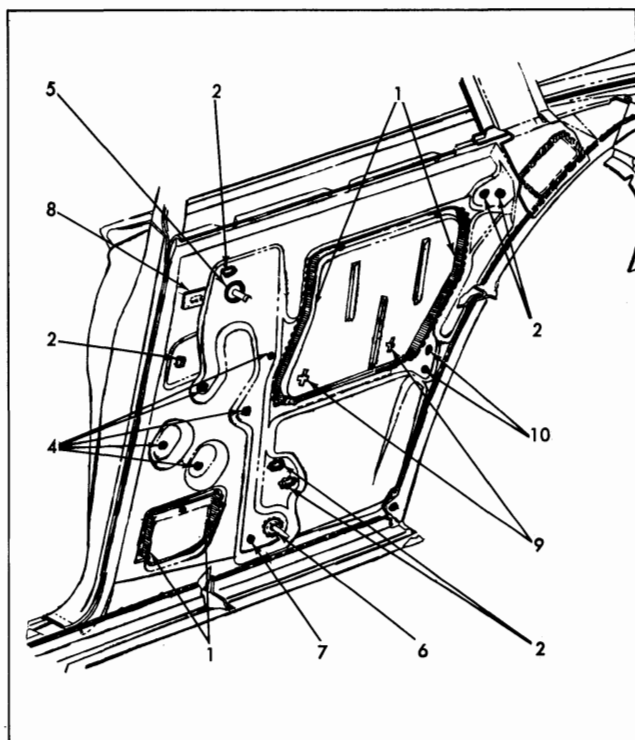

Fig. 4-10 Inner Panel Sealing - 11 Style Electric
- 11 style (Electric) - Figure 4-10